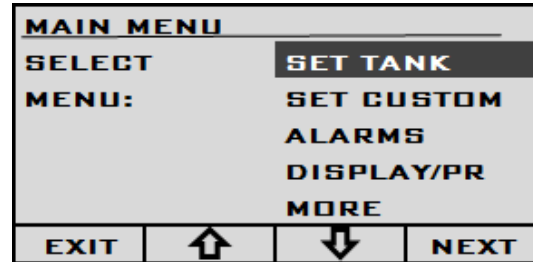

Figure 6.3.1: SET TANK option
- 2) On the MAIN MENU screen select the SET TANK option and press the NEXT key. (Figure 6.3.1)